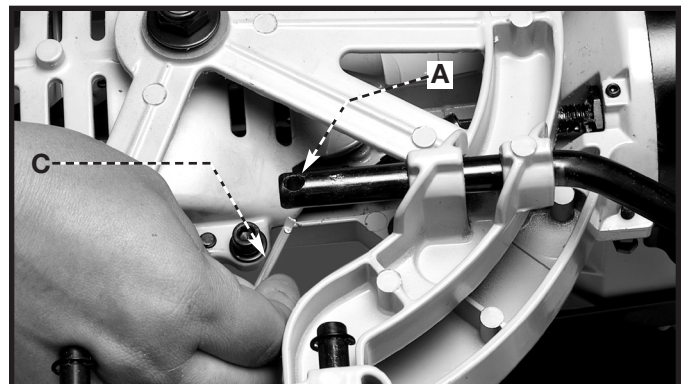
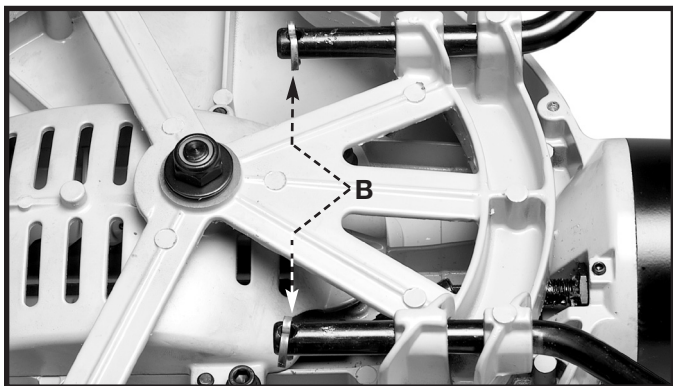

Fig. 4
Fig. 5
2. Insert the cotter pin (C) Fig. 4 through the bottom of the hole in the rear support/stabilizer and carrying handle (A) and bend the two pins (B) on the back. (Fig. 5). Repeat this process for the remaining hole in the rear support/carrying handle.